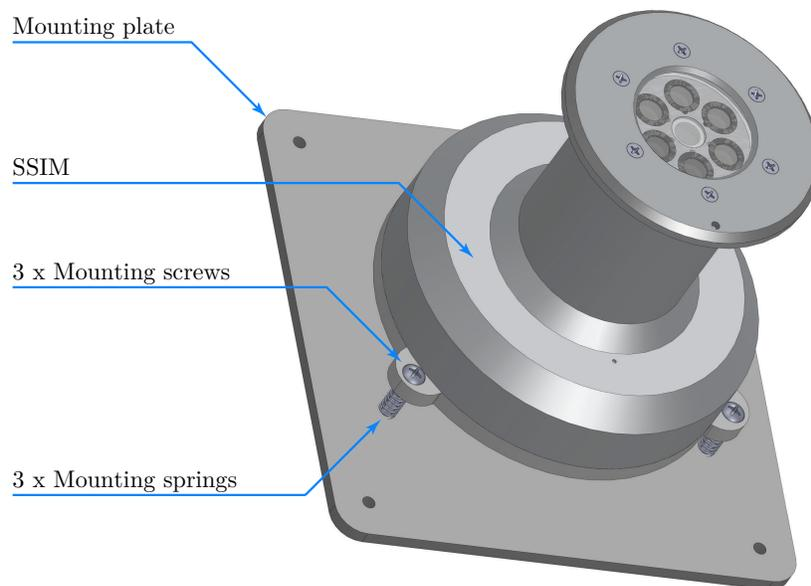
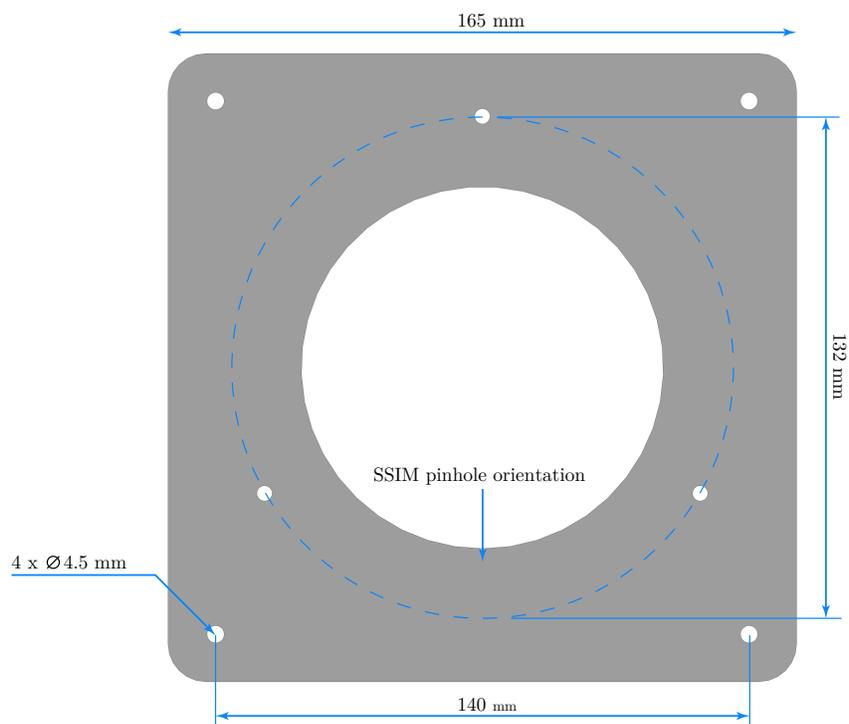

Figure 3: Assembled SolarSIM-D2 on a mounting plate.
Figure 4: Dimensional drawing of a mounting plate.
The SolarSIM-D2 installation requires fastening it to the 165 mm × 165 mm mounting plate via three M4 screws and springs, as demonstrated in Figure 3. The mounting plate is 4.8 mm thick and has four through holes of 4.5 mm diameter for external fastening, as shown in Figure 4. The screws for external mounting are not provided. The procedure for mechanical installation is described as follows:
1. Place the SolarSIM-D2 on the mounting plate as per Figure 4.